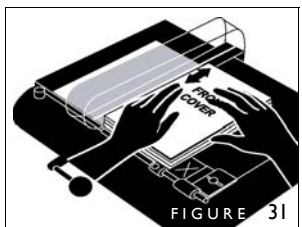

FIGURE 31
5. With the book spine pushed fully and firmly to the left, fold the cover over the front of your book block (figure 31). Starting at the middle, rub down back and forth to secure the cover to the adhesive.